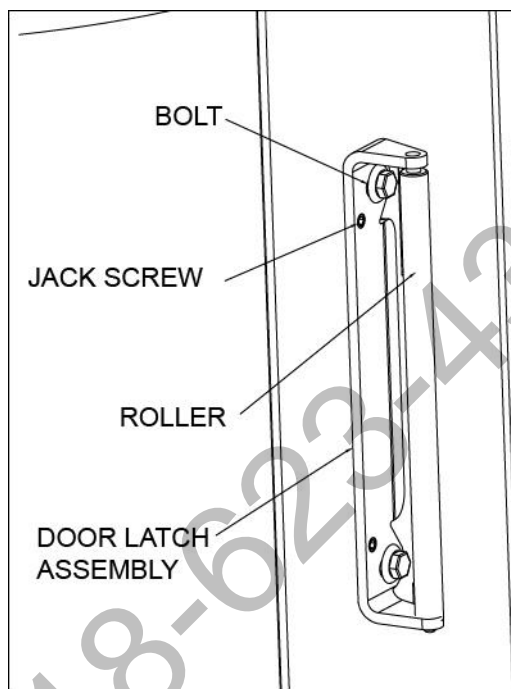

Figure 14: Latch Assembly Detail
6. First, adjust the gasket as necessary by reseating it uniformly. If that does not work, adjust the latch mechanism (see below and Fig. 14 and 15) so it applies more pressure when the door is closed. Keep the door closed and do not burn the stove for 24 hours while the adhesive cures.
2. Loosen bolts, adjust jackscrews, or use a combination of both to shift the latch assembly to apply more, or less closing pressure to the gasket (See Fig. 14).